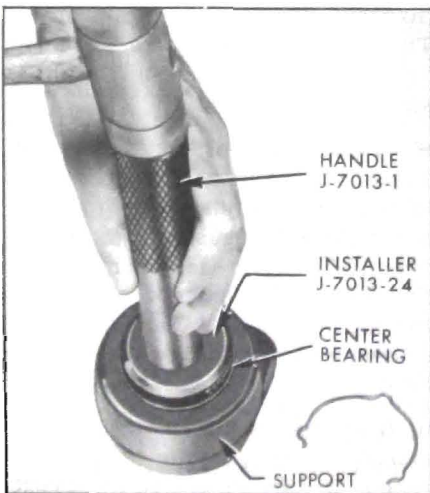

Figure 6-67—Installing Center Bearing Into Support
1. Install new bearing into center bearing support with the aid of Installer J-7013-24 and handle J-7013-1 (Flight Pitch Tools). See Figure 6-67.